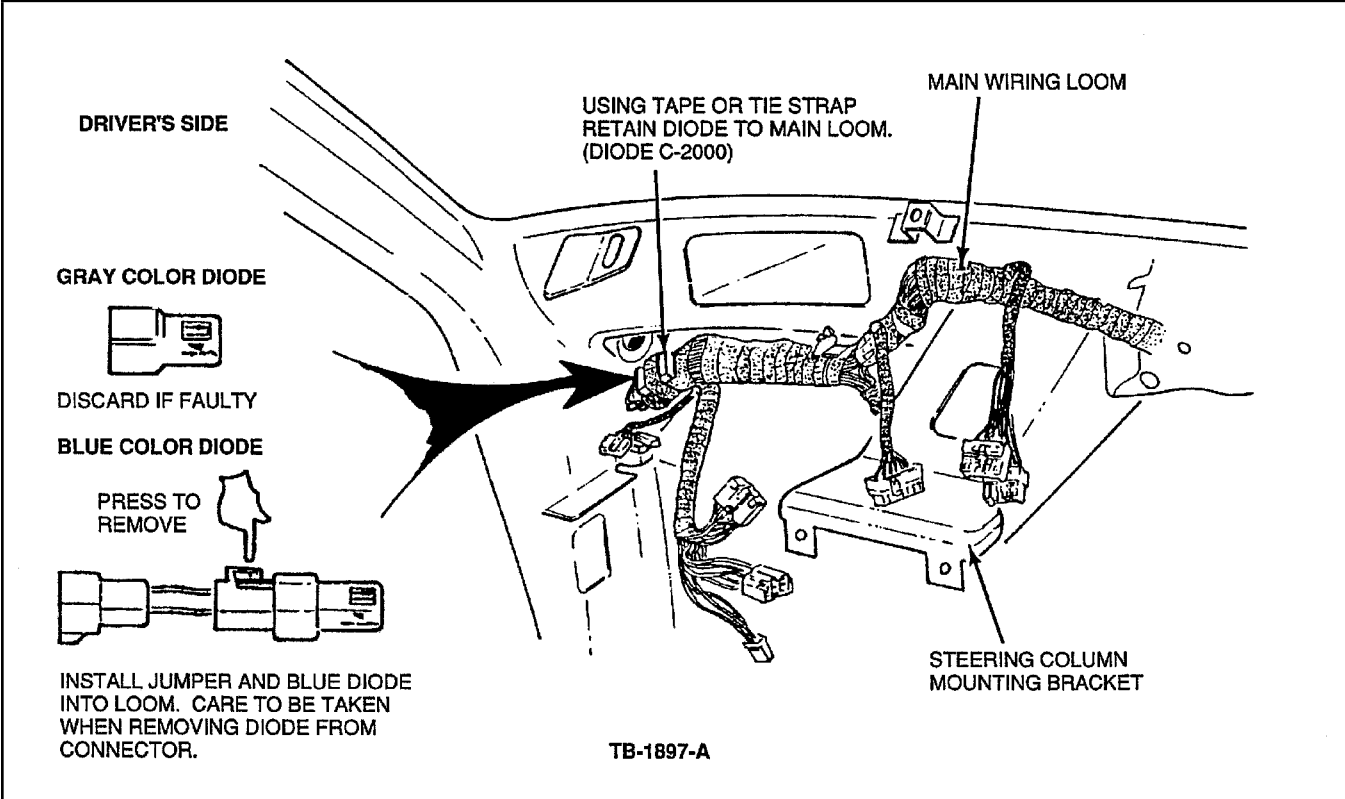

Figure 1 - Article 90-22-10
If the engine continues to run with the ignition key in the OFF position and with either of the car doors open, diode (C2000) has short circuited. It is feeding 12 volts to the ignition switch. It is located on the main wiring harness, Figure 1.
If the seat belt warning buzzer fails to operate, the cause may be an open circuit diode (C2000), Figure 1. Additionally, for turbo only, diodes (C262 & C263) may also be damaged. Diode locations are shown below.
- Diode (C2000) - is located on the main wiring harness, above the fuse panel on the left side of the the instrument panel, Figure 1.
- Disconnect the diode from the two pole wiring connectors. There are two (2) types of diode assemblies used...
- Disconnect the overboost vacuum switch wiring connector, Figure 1.